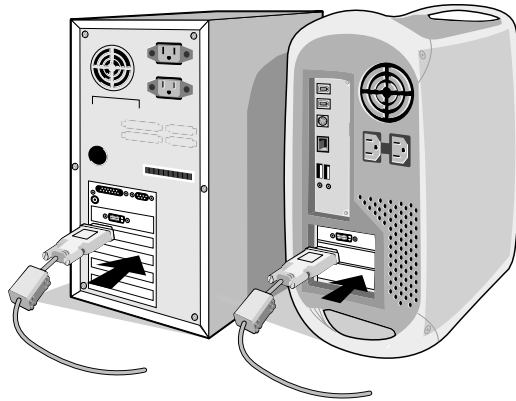

Figure A.1
2. **For the PC or MAC with DVI digital output:** Connect the DVI signal cable to the connector of the display card in your system (**Figure A.1**). Tighten all screws.
**For the PC with Analog output:** Connect the 15-pin mini D-SUB to 15-pin mini D-SUB signal cable to the connector of the display card in your system (**Figure A.1**).